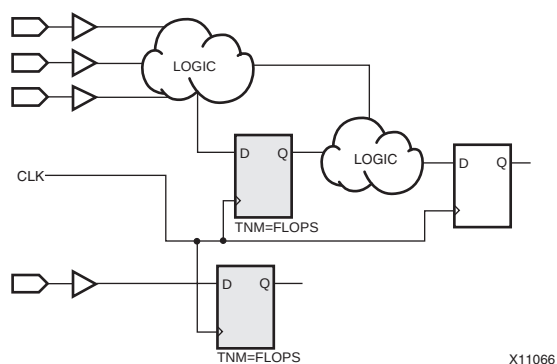

Figure 3-6: Grouping via Instances
- Figure 3-6, “Grouping via Instances”
An example of the wildcard transversing the design hierarchy is shown in Figure 3-6, "Grouping via Instances," for the following instances: